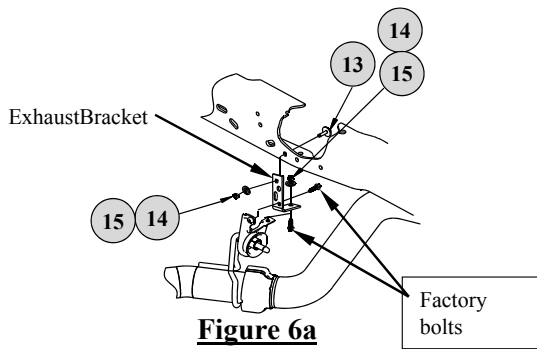

Figure 6a
20. If there is less than 1/2" clearance between the exhaust pipe and the cross members, the exhaust bracket supplied with the 4449 mounting kit must be used (See figure 6a and 6b). For the rear attachment (Figure 6a), fasten the supplied bracket extension to the factory bracket with the factory M8 bolts, then fasten the extension to the frame with the supplied hardware. Reattach the exhaust bracket forward of the axle to the frame cross member with 3/8" spacers sandwiched between the bracket and cross member.